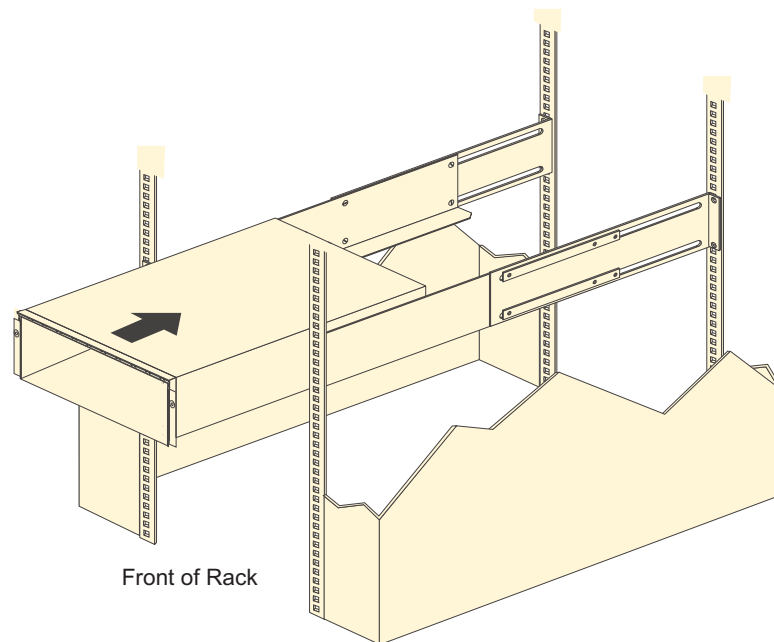

Figure 17. Installing the EXP420
- b. With help from another person, place the back of the storage expansion enclosure on the support rails, and then slide the unit into the rack as shown in Figure 17.